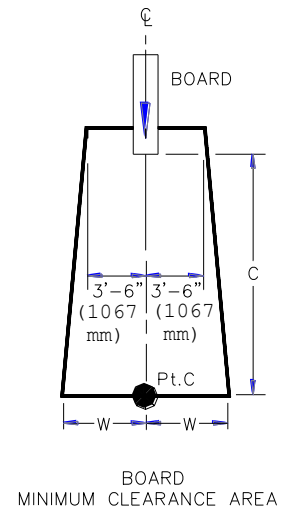

FIGURE 15
- A. The minimum clearance area in front of a properly installed diving board on an inground swimming pool is a minimum distance of 3'-6" (1067 mm) on either side of the board's centerline as shown in FIGURE 15. Pt. C extends a minimum distance of "C" from the tip end of the board as shown in FIGURE 15. The width distance "W" on either side of Pt. C is given in CHART 1 and shown in FIGURE 15.